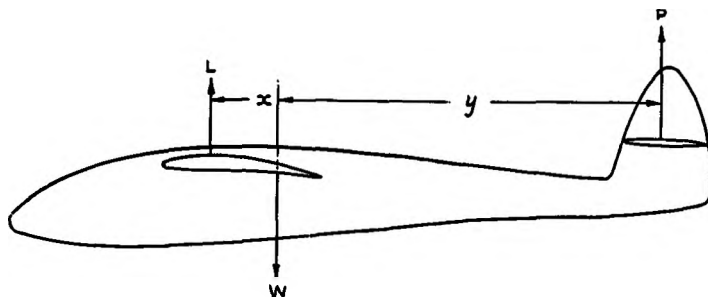

FIG 1. DRAG ACTS NEARLY THROUGH C.G. ON A SAILPLANE AND CAN THUS BE IGNORED
This is derived from the forces shown in Fig. 1. The lift (L) acting on the wing at a distance x from the C.G. is obviously providing a moment tending to lift the nose of the machine. This is known as a positive moment, by the way. To counteract this, the tailplane must create a force such that its moment Py
For ease of working, it is best to tabulate the Total Moment calculations as shown in my example. Take the wing moment first. The test data in this case were given corrected to an infinite aspect ratio, and thus the first four columns are concerned with determining the angle of attack for the aspect ratio in use, for various values of C_L . The position of the C.P. is determined from the experimental data, and this multiplied by the mean chord of the wing gives us its position from the L.E. in inches. The C.G. has already been arbitrarily fixed, at say 3.5 in. from the L.E. Thus we can determine " x " (Fig. 1) and tabulate it in column 7. Now all that remains is to multiply this to C_L , and we have the upsetting moment due to the wing.